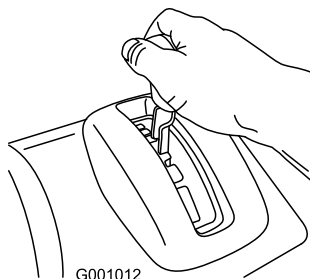

Figure 13
1. Place the speed selector lever to the desired forward position, making sure that it locks in the notch (Figure 13).